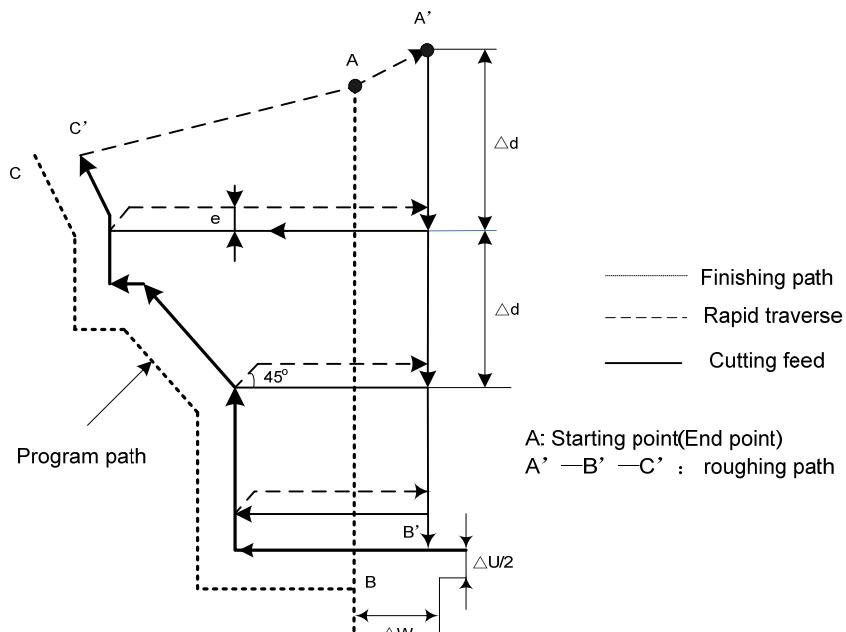

Fig. 2-37 G71 cycle path
**Execution process: as Fig. 2-37.** G71 execution process in type 1: Fig. 2-37.
6. After executing X tool infeed ( $\Delta d+e$ )again, the end point of traversing tool is still on the middle point of straight line between A' and B'(the tool does not reach or exceed B'), and after executing the tool infeed ( $\Delta d+e$ )again, execute ③; after executing the tool infeed ( $\Delta d+e$ )again, the end point of tool traversing reaches B' point or exceeds the straight line between A'→B' point and X executes the tool infeed to B' point, and then the next step is executed;